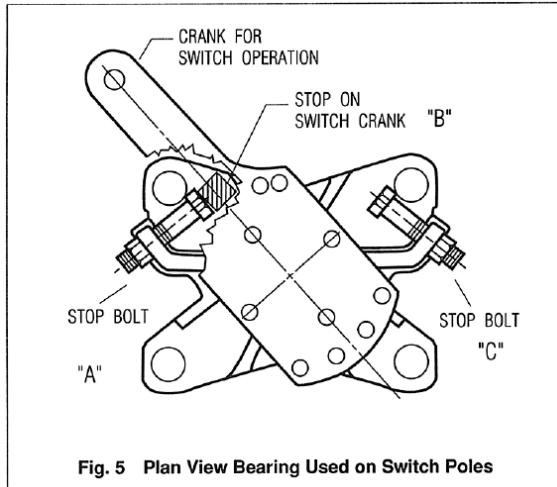

Fig. 5 Plan View Bearing Used on Switch Poles
After this has been accomplished, the closed position stop bolt (A) Fig. 5 is set so that it engages the mating projection (B) on the crank. Then, move the switch to the fully open position and adjust the one position stop bolt (C) in the same manner.